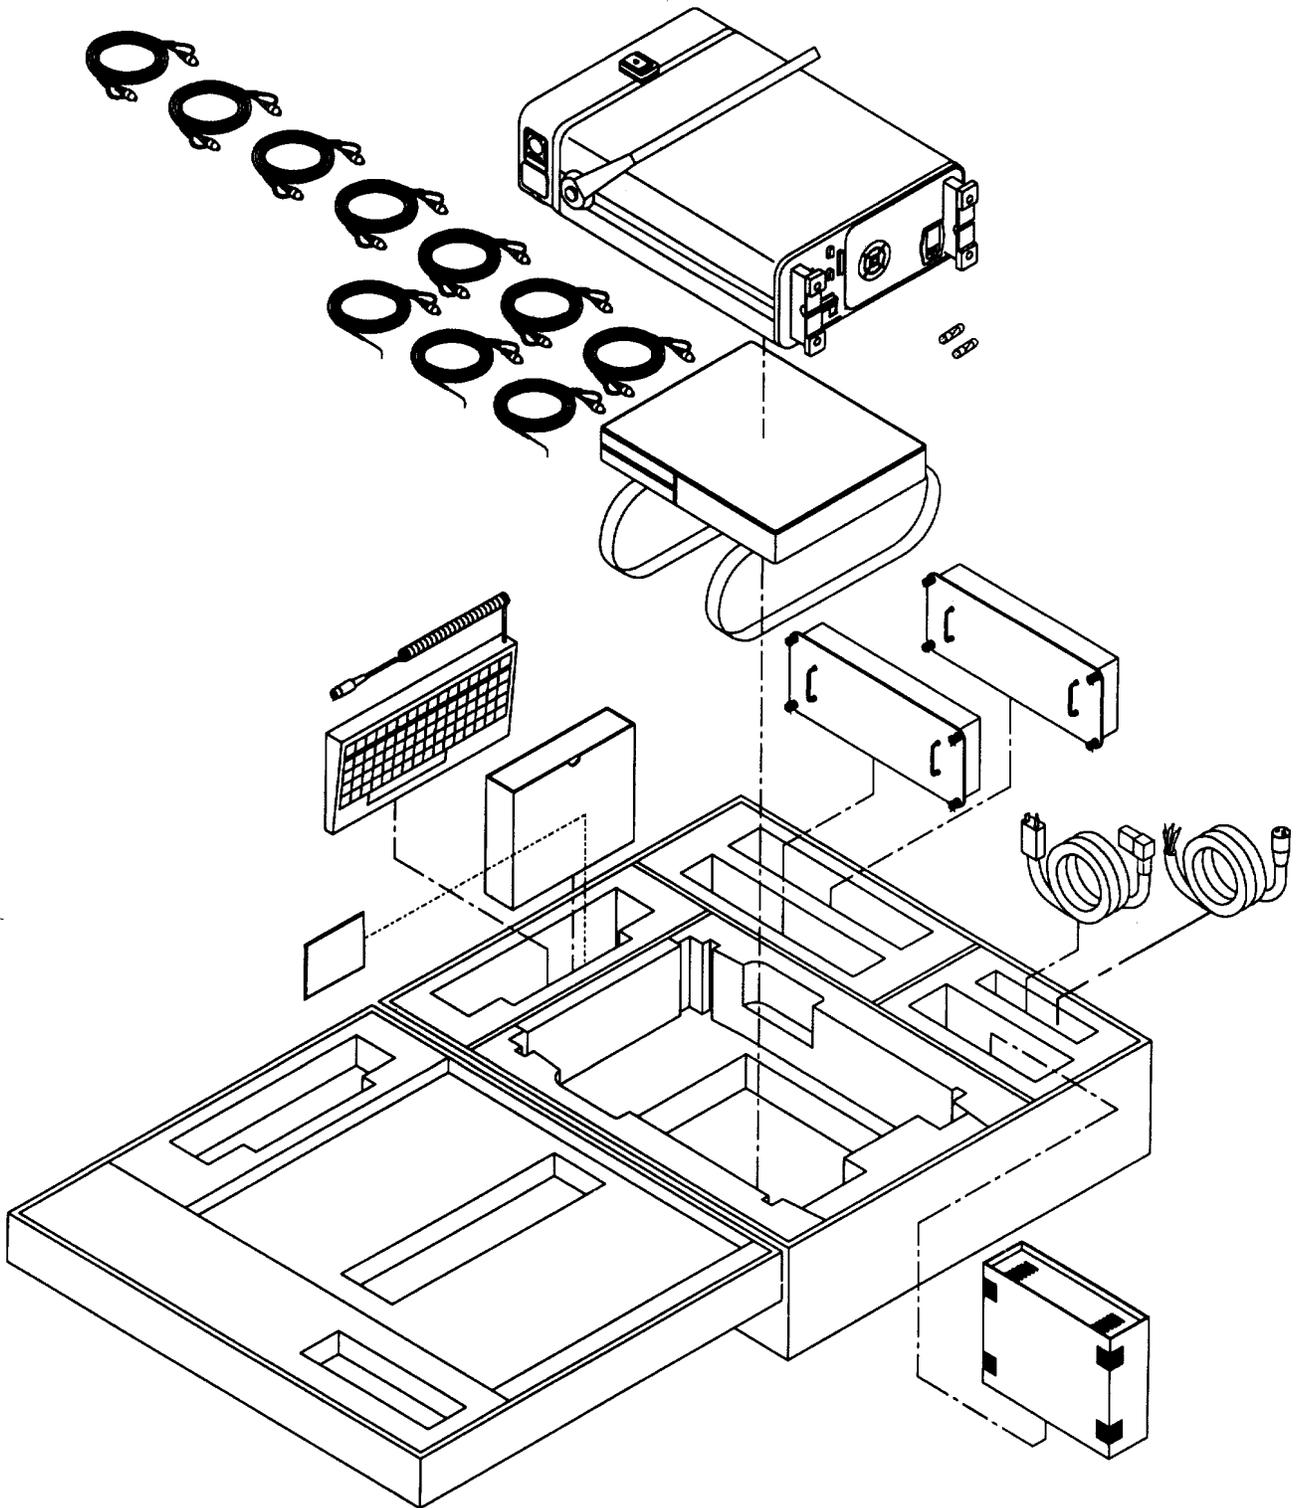

Figure 1-1. Optical Fiber Test Set TS-4320(P)/G.
- b. *Equipment Name and Model Number:* Optical Fiber Test Set TS-4320(P)/G (fig. 1-1).